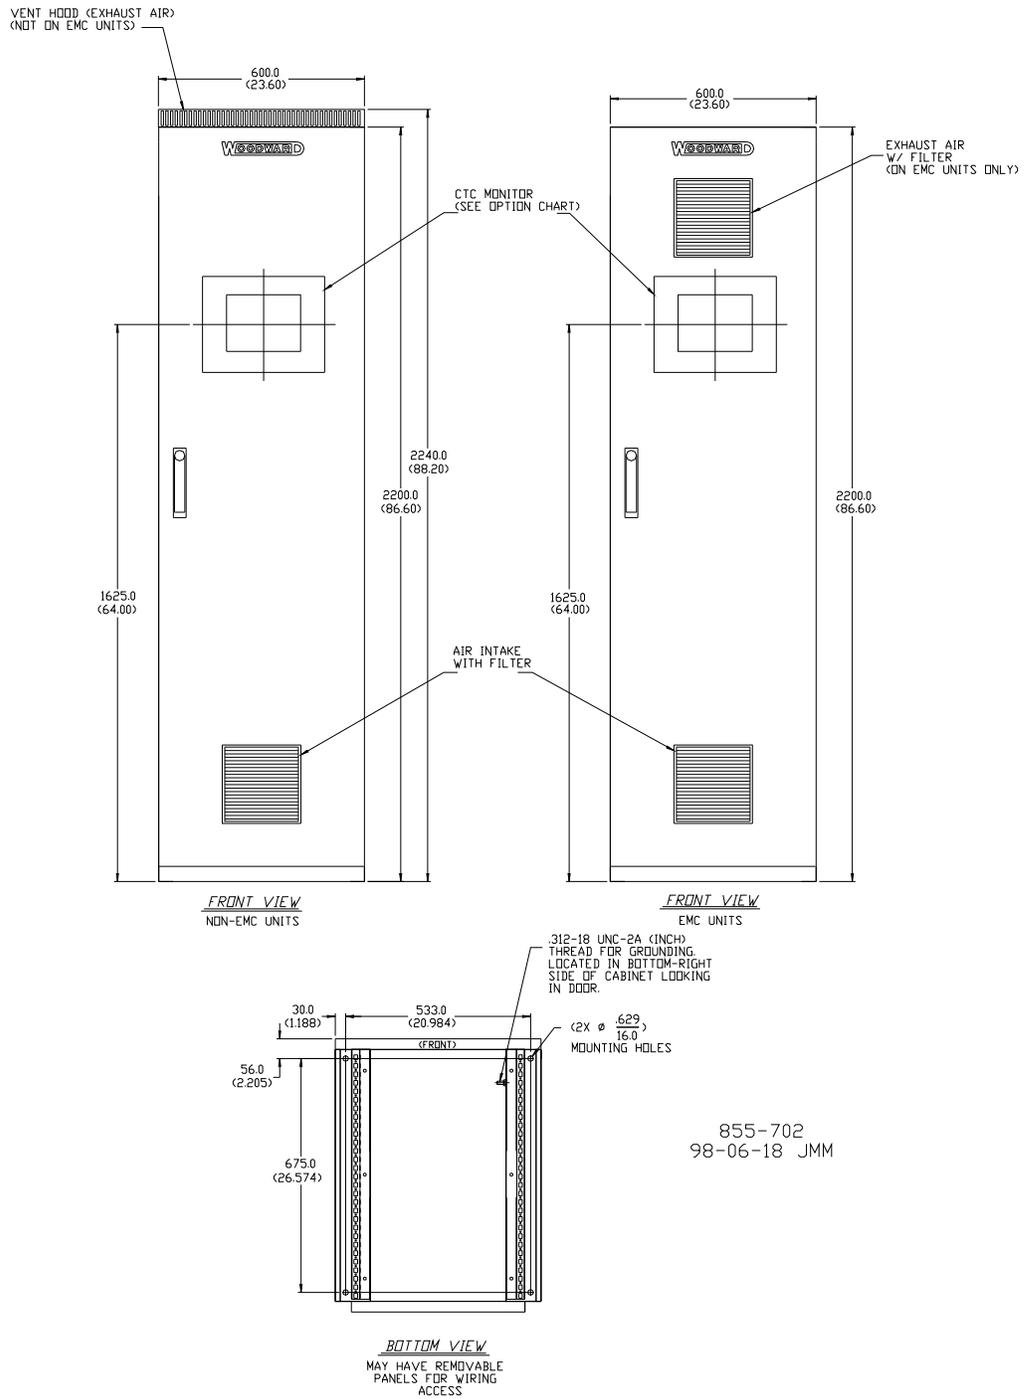

Figure 3-2. Cabinet Dimensions
1. Mark cabinet and mounting bolt locations. See Figure 3-2.